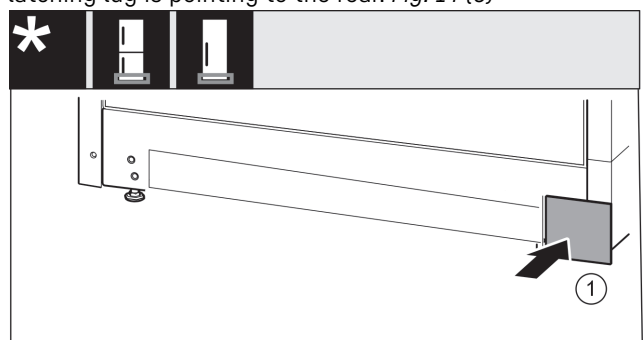

Fig. 15
- ▶ Put back the cover on the other side. *Fig. 15 (1)*